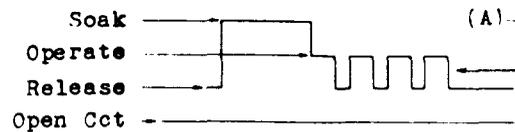

Fig. 6
(b) Fig. 6 (A) - The current values specified on the circuit requirement table or elsewhere shall be applied in the following order in testing and readjusting. With the "Release" current applied continuously connect both the "Soak" and "Operate" currents. After one second disconnect the "Soak" current and follow immediately by interrupting the "Operate" current at the above speed and ratio of make to break for 3 interruptions. The foregoing cycle of tests, when repeated, shall always proceed in the same sequence starting with the application of the combined "Soak" and "Operate" currents.